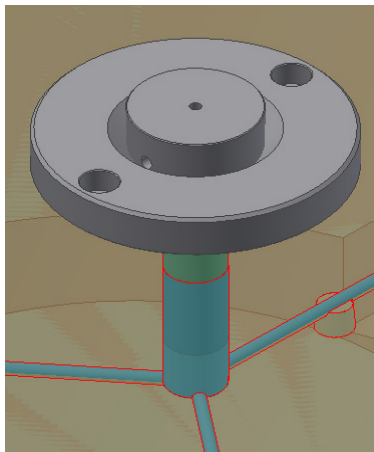

Figure 19-90 The locating ring created
4. Choose the **OK** button from the dialog box; the locating ring is created, refer to Figure 19-90.